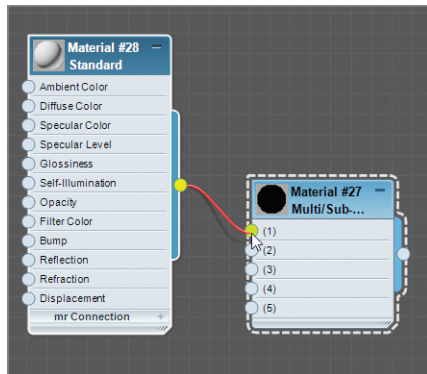

FIGURE 10.20 Adding a Standard material to the Multi/Sub-Object Material node
3. Drag a Standard material from the Material/Map Browser to the Active View area, and then from the output socket of the Standard material, drag it to the input socket of the MSOM, as shown in Figure 10.20.